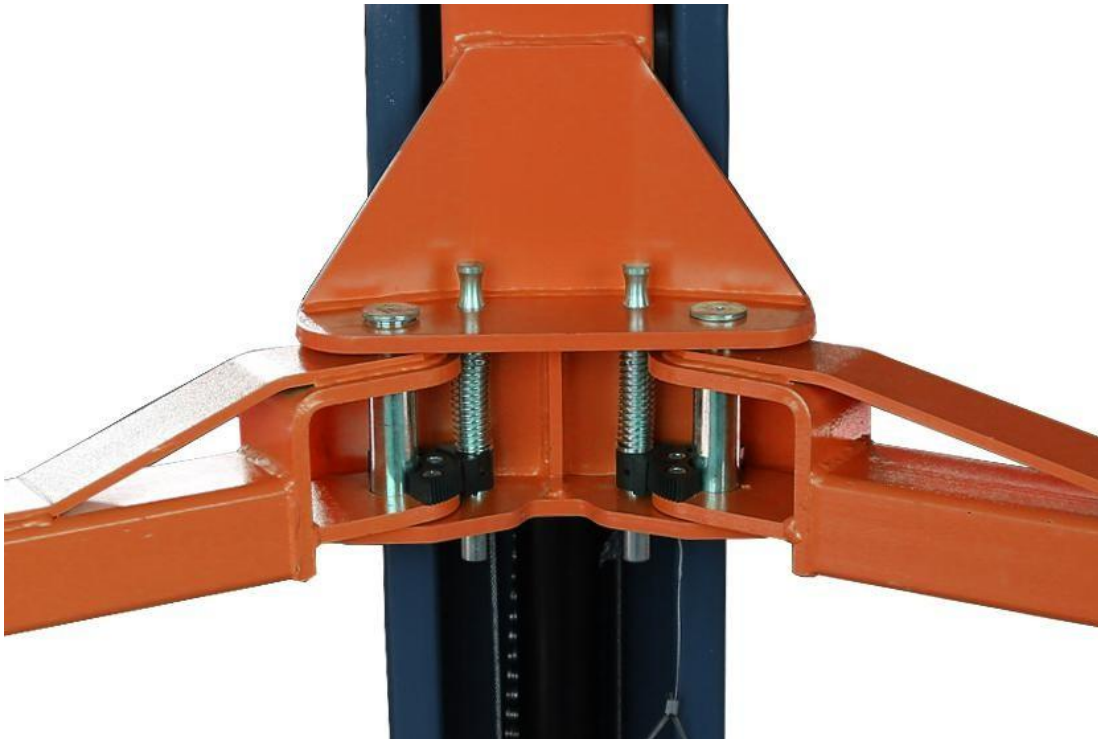
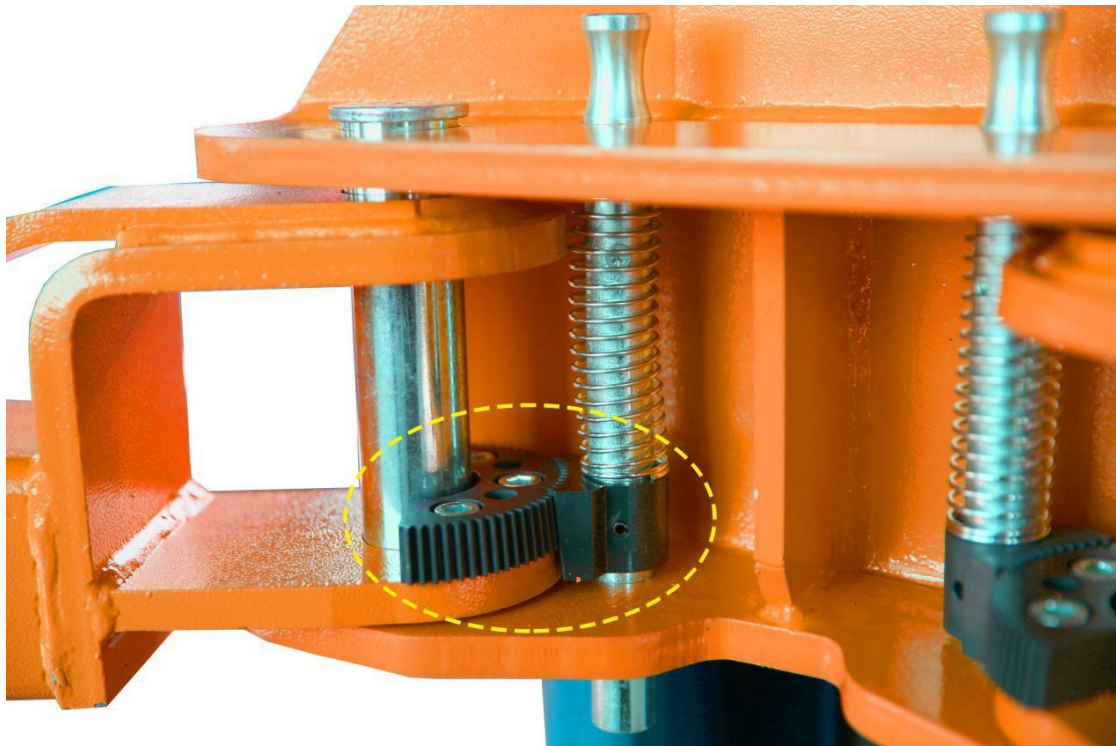

Fig 9 Arm Installation Diagram
Fig 10 Pulling Rod Installation Diagram
Install arms and pulling rod (Fig 9 and Fig 10).
**Note:** Loose the screw to adjust when necessary(Fig 10).